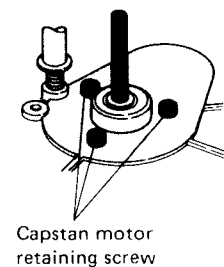

Fig. 3-8
- 5) Remove the three screws retaining the Capstan motor as shown in Fig. 3-8.
- 1) Fasten the Capstan motor with the three Capstan motor retaining screws as shown in Fig. 3-8.